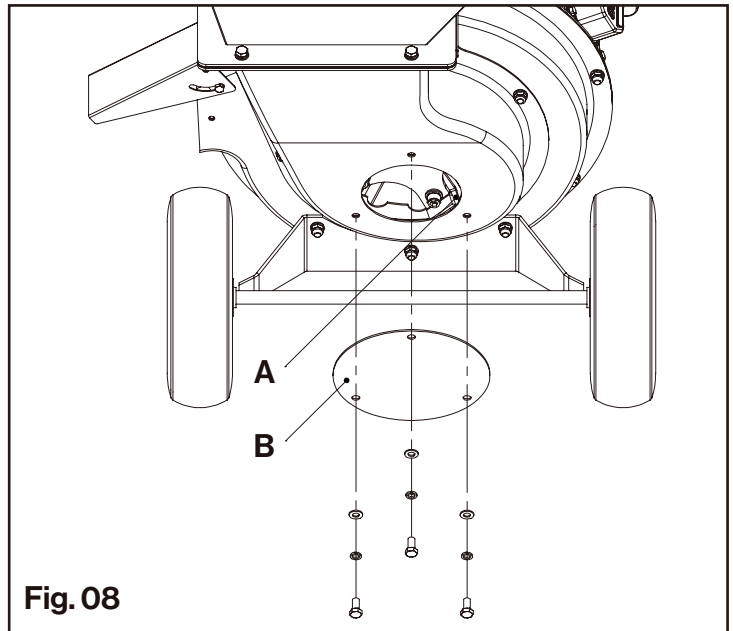

Fig. 08
2. Remove the small circular access panel (B) from the back of the shredder housing. **(Fig.08)**
3. Inspect the cutting edges of the Y-hammers (A).